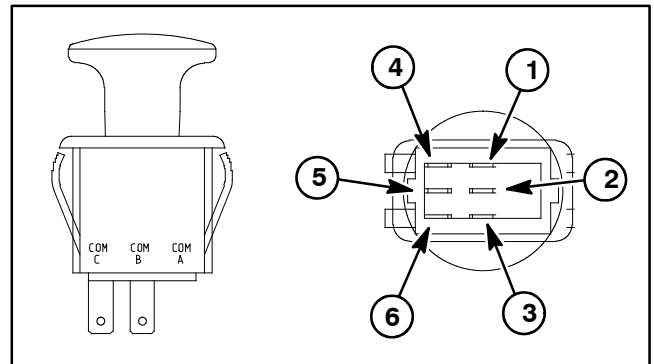

Figure 11
C. The PTO switch terminals are identified as shown in Fig. 11. The circuitry of the PTO switch is shown in the chart in the right column. With the use of a multimeter (ohms setting), the switch functions may be tested to determine whether continuity exists between the various terminals for each switch position. Verify continuity between switch terminals.